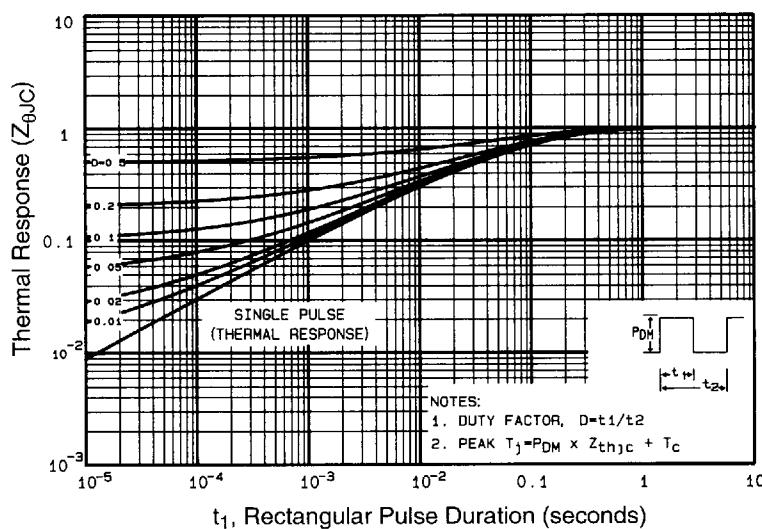

Fig 11. Maximum Effective Transient Thermal Impedance, Junction-to-Case
① Repetitive rating; pulse width limited by max. junction temperature (See Figure 11)
③ $I_{SD} \leq 45A$, $dI/dt \leq 275\text{A}/\mu\text{s}$, $V_{DD} \leq V_{(\text{BR})\text{DSS}}$, $T_J \leq 175^\circ\text{C}$